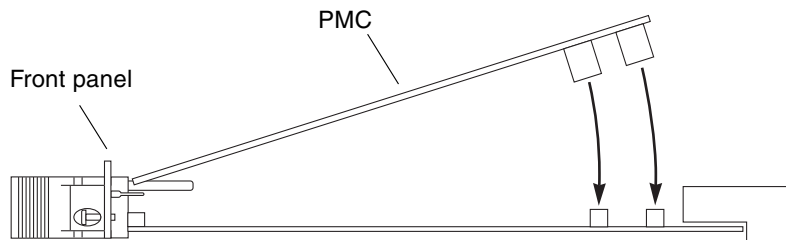

FIGURE 2-6 Pressing the PMC Into the PMC Connectors (Side View)
8. Carefully press the PMC into the board's PMC connectors (FIGURE 2-6).